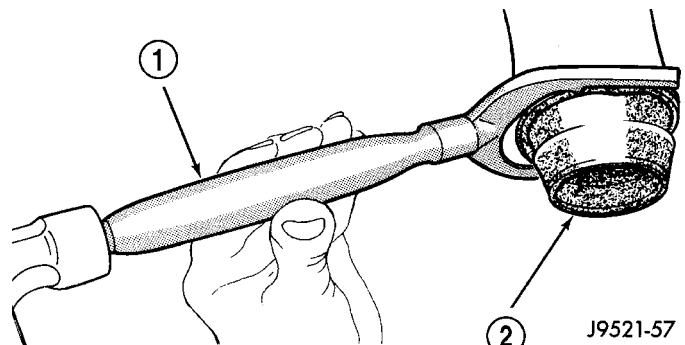

Fig. 132 YOKE SEAL
- (1) Raise and support vehicle.
- (2) Mark propeller shaft and axle yoke for alignment reference.
- (3) Disconnect and remove propeller shaft.
- (4) Remove old seal with Remover C-3985-B (Fig. 132) from transmission housing.